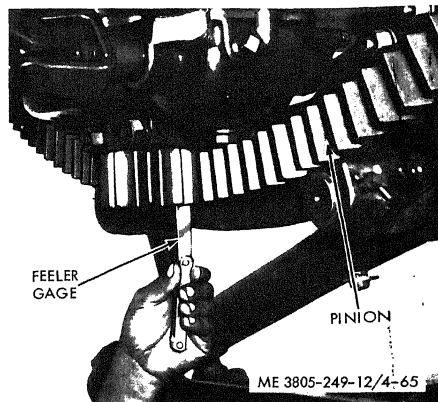

Figure 4-67. Circle reverse gear housing.
(4) Remove the retainer ring and pin which secure the coupling to the shaft. Refer to figure 4-67.